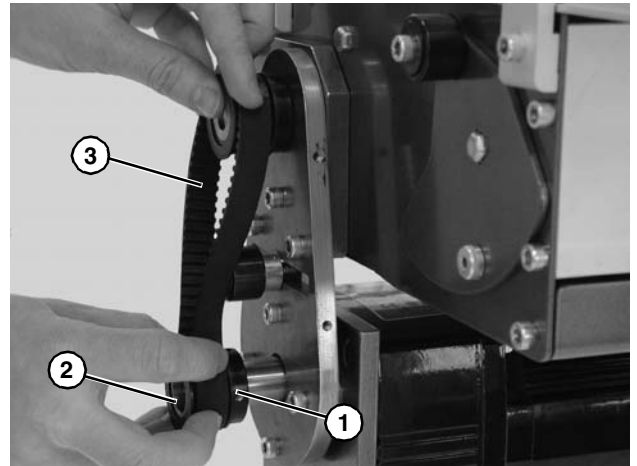

Figure 26
If drive pulley (**Figure 26, item J**) is replaced, wrap timing belt around drive pulley and complete step 3.
3. Loosen drive pulley set screws (**Figure 26, item 1**). Remove drive pulley (**Figure 26, item 2**) and timing belt (**Figure 26, item 3**).